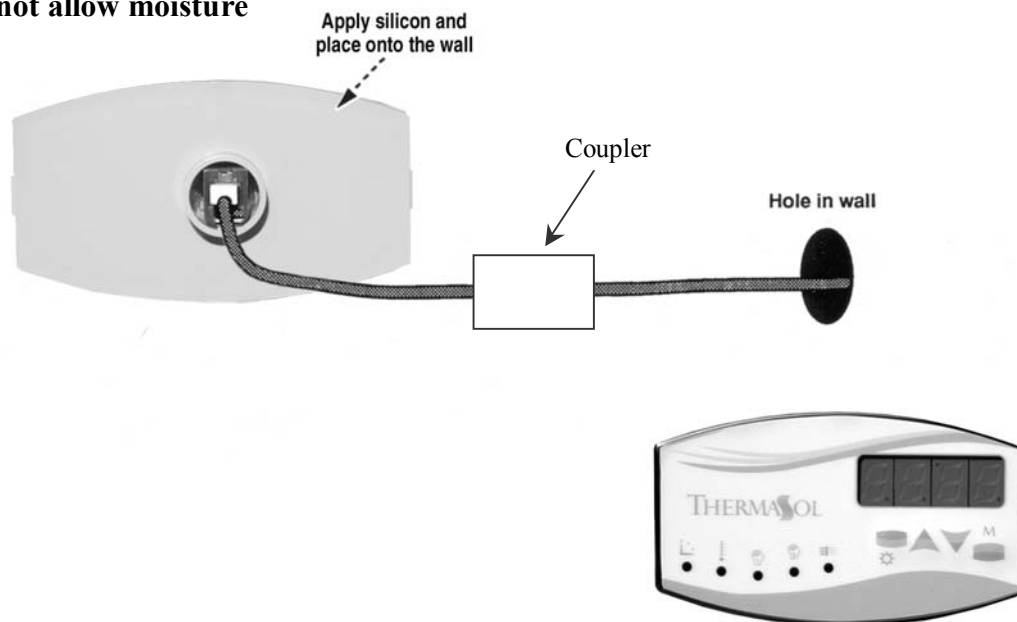

Figure 10
7. **THESE STEPS MUST BE TAKEN OR YOUR WARRANTY WILL BE VOID.** Coat the entire control back with supplied waterproof silicon. Completely seal the control to the wall so moisture does not get behind it. Place the control on the wall pressing firmly. You may need to tape the control into place until the silicone dries. Be careful not to harm the wall/control with the tape. Refer to figure 10. **Let dry for 24 hours before using steam bath.**